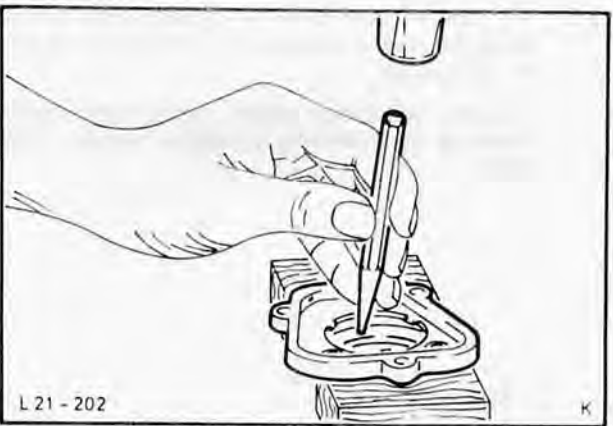

Fig. 232. Drive auxiliary shaft oil seal out of front cover, using drift
7. Drive oil seal out of front cover, using suitable drift, Fig. 232.